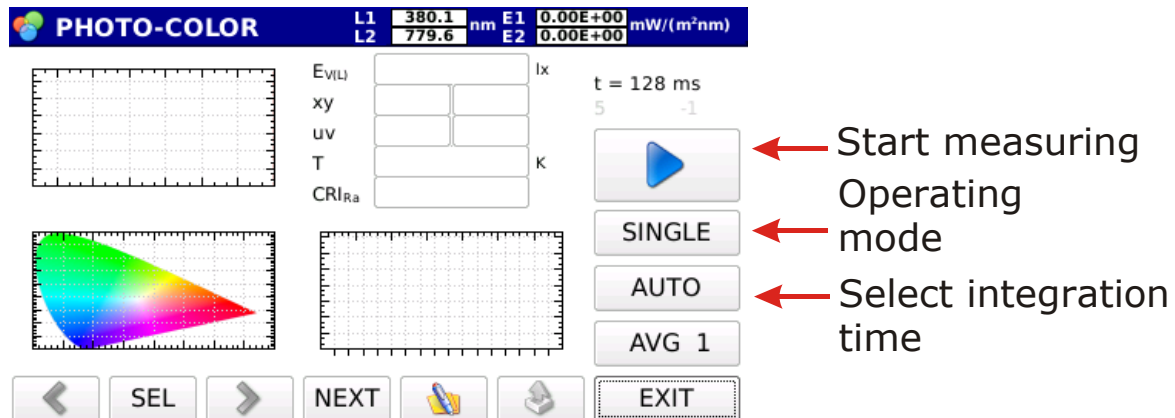

Fig. 3.10: PHOTO-COLOR measuring mode startup screen
This operating mode is active only with the probe HD30.S1. Besides the emission spectrum, the main photo-colorimetric quantities can be displayed, such as: illuminance (Lux), trichromatic coordinates CIE 1931 (x, y) and CIE 1976 (u',v'), the Correlated Color Temperature CCT (K) and the Color Rendering Index CRI (the general index and the index of each of the 14 reference samples). By pressing the PHOTO-COLOR button you access the screen in Fig. 3.10.